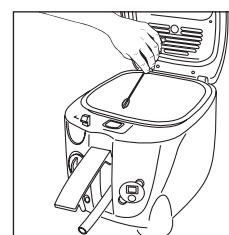

fig. 20
- A plastic pipe cleaner is supplied with the product for use in cleaning the oil drainage hose (Fig. 20). It is essential that no alternative pipe cleaners are used as **DAMAGE** may occur to the hose. Never use the pipe cleaner before extracting the drainage hose.